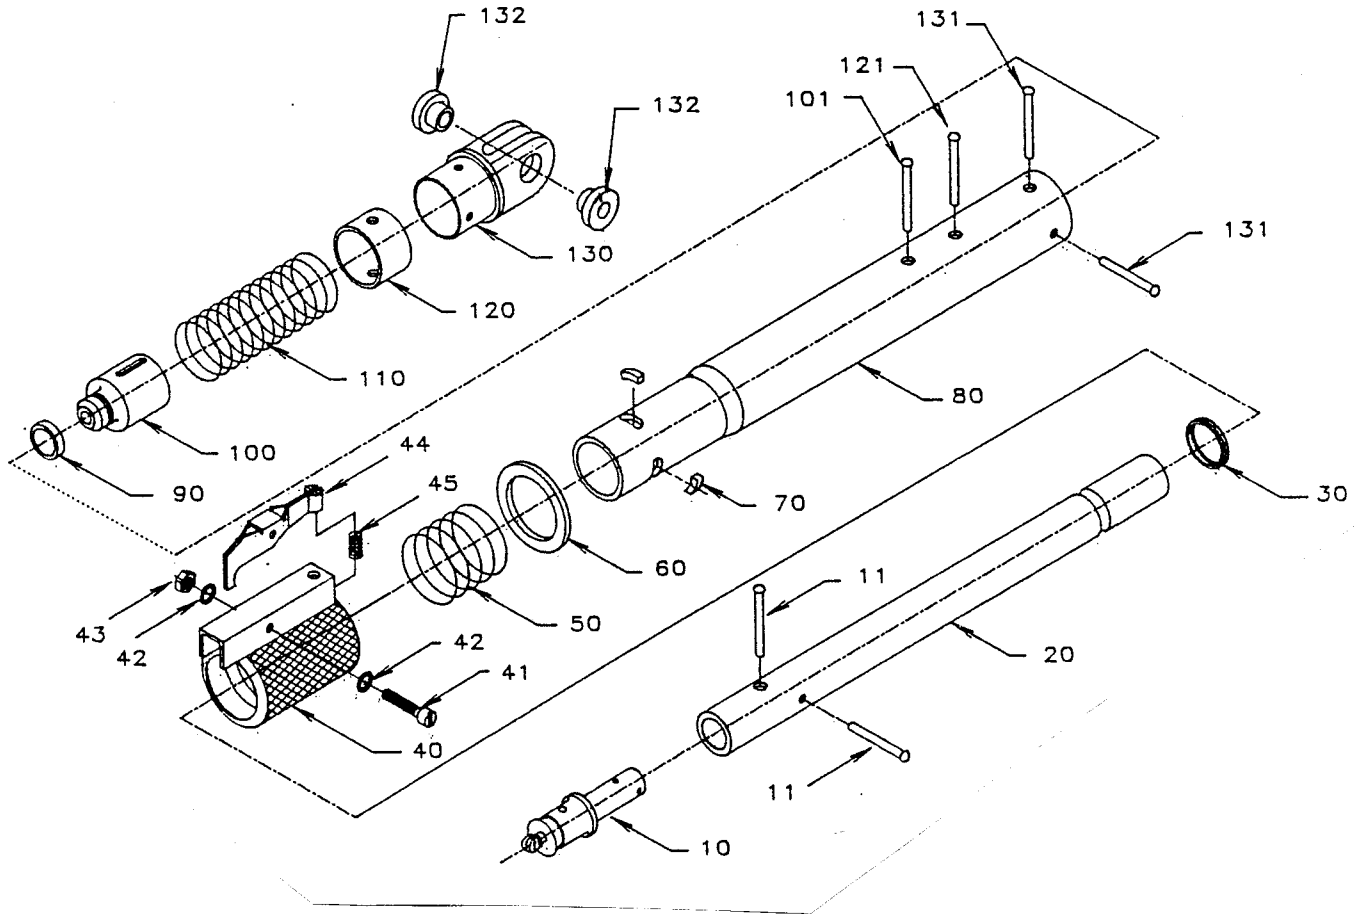

FIGURE 1 - A2898-1 STRUT ASSEMBLY
A. Disassembly (See Figure 1)
- (1) Remove secondary lock housing from collar (40) by breaking six spot welds along two sides of rectangular housing. Use a hammer and chisel to break welds. Remove sharp edges on broken welds. Scrap housing, safety latch (44, 43, 42, 41), and spring (45).
- (2) Drill out two rivets (131) using a 0.125 inch (3.175 mm) diameter drill. Remove end fitting (130).
- (3) Drill out two rivets (121) and (101) using a 0.156 inch (3.962 mm) diameter drill. Remove plug (120) spring (110) and damper (100) from end of outer tube (80). Check "O" ring (90) for cuts and wear. Replace if worn or cut.
B. Assembly (See Figures 1 and 2)
Item numbers correspond to those shown in Figures 1 and 2.